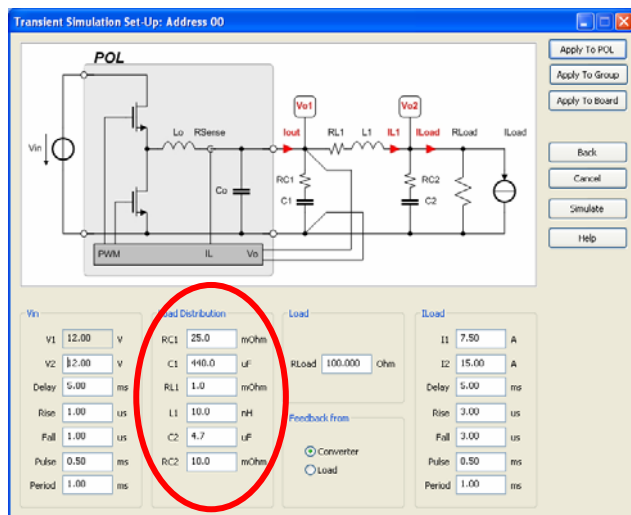

Figure 12. Capacitor parameter fields in the Transient Simulation window.
4.) Enter the chosen capacitor's parameters into the GUI's Transient Simulation window. See Figure 12.